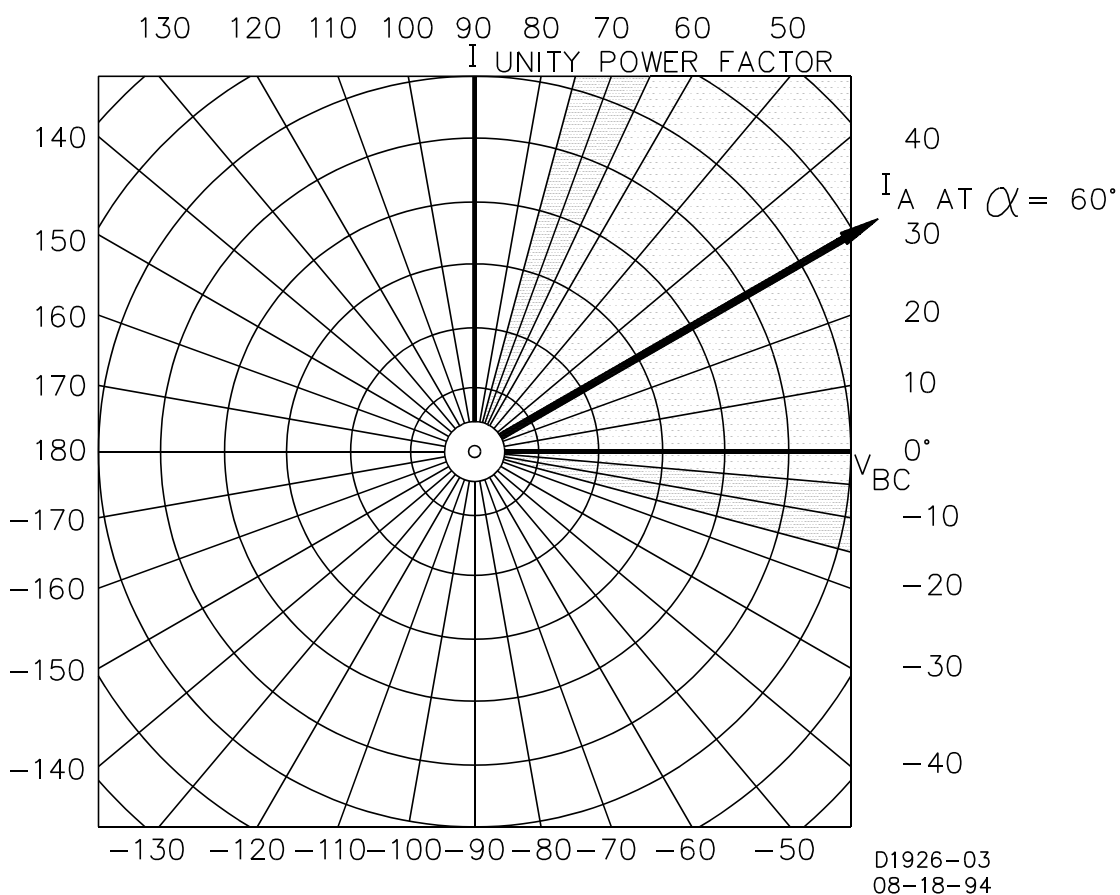

Figure 5-14.  $\alpha = 60^\circ$ , Limited Range Of Operation =  $40^\circ$
- Step 3. Vary the applied current phase angle through  $360^\circ$  and record the angle values at which the appropriate phase INHIBIT LED turns ON and OFF. Plot the results on a polar coordinate graph for future reference. The resultant plot should look like Figure 5-14.